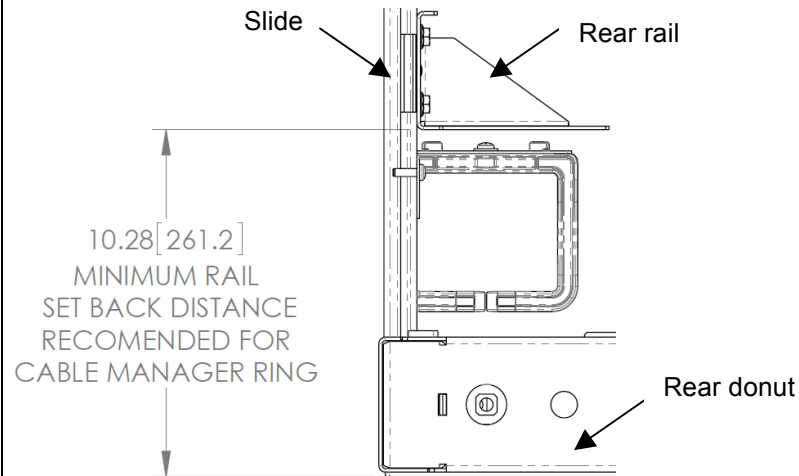

Fig. 1
1. The rear equipment mounting rail must be setback a minimum distance when used with Cable manager ring (Fig. 1).